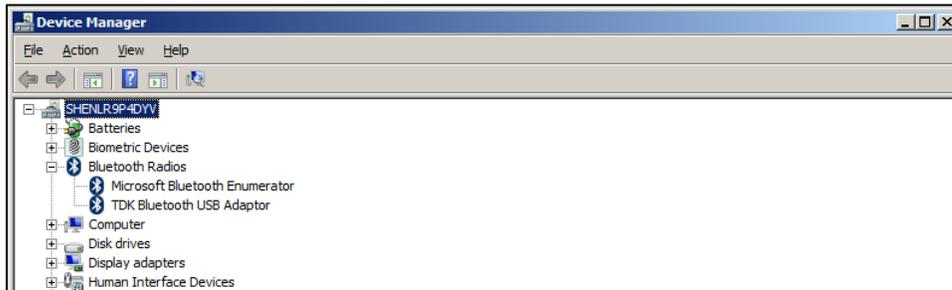

Figure 5: Windows Device Manager
3. Once installed, check the Windows Device Manager (Figure 5). Note the presence of the Microsoft Bluetooth Enumerator and TDK Bluetooth USB Adaptor. These indicate a successful installation.